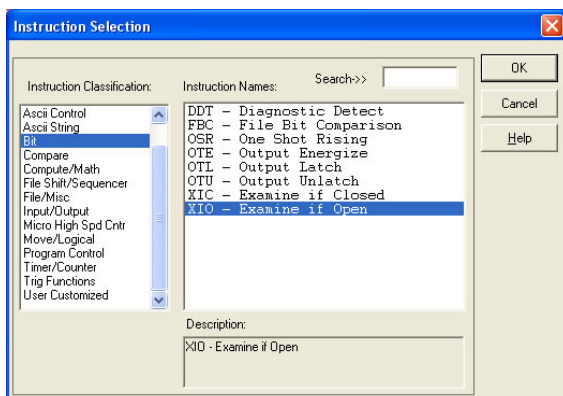

Figure 112: XIO Instruction Selection
- b) Select the "XIO" instruction from the "Bit" classification, then click OK. Refer to Figure 112.